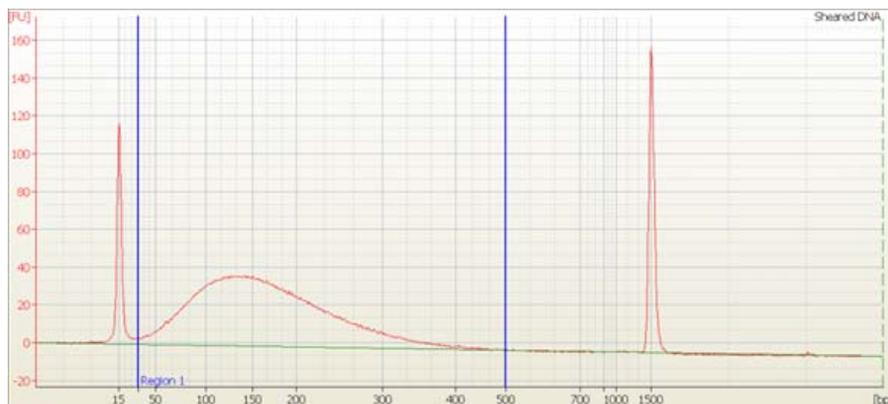

Figure 3 Analysis of sheared DNA using a DNA 1000 Bioanalyzer assay.
- 6 Verify that the electropherogram shows an average DNA fragment size of 150 to 200 bp. A sample electropherogram is shown in Figure 3.